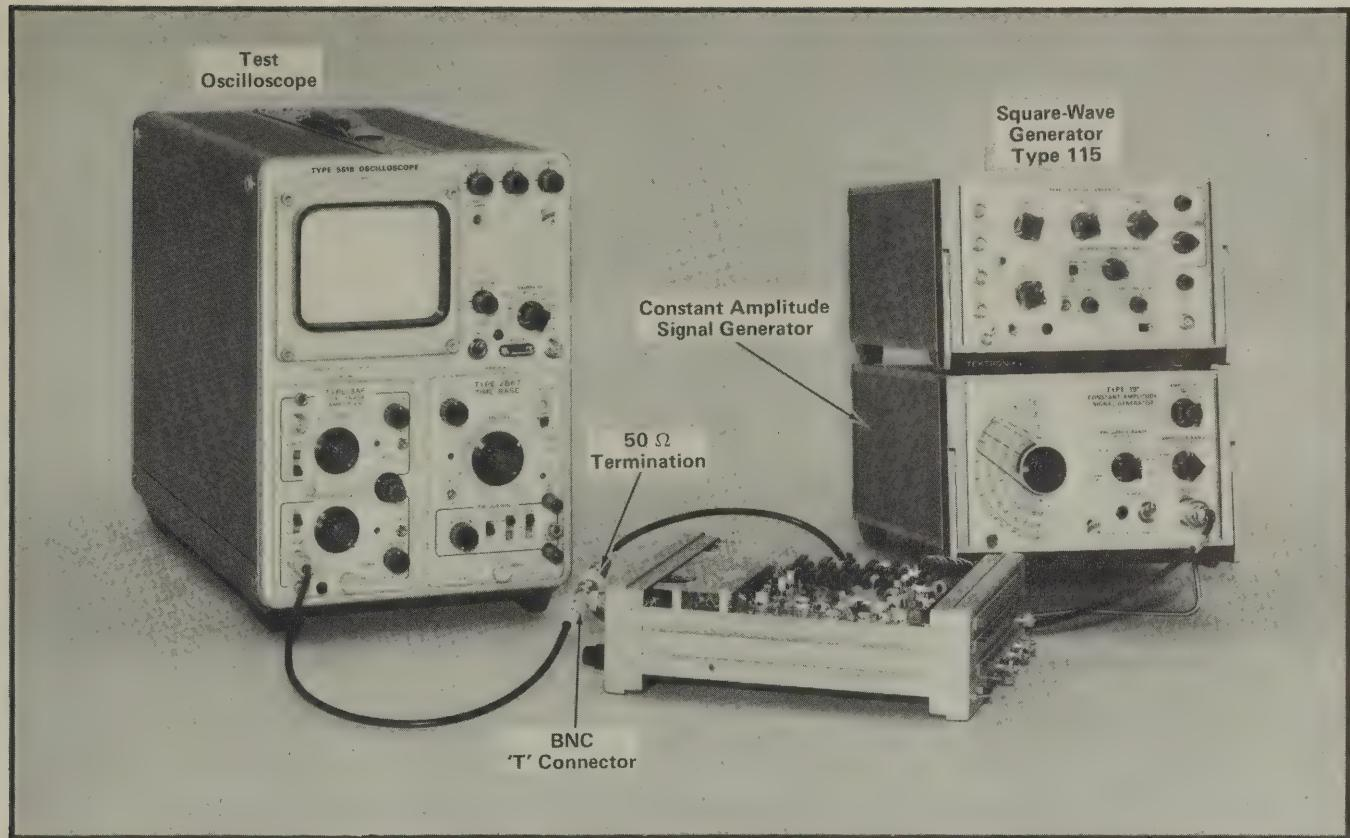

Fig. 5-9. Equipment setup to check 2901 countdown operation with an external clock signal applied.
- Test equipment setup is shown in Fig. 5-9.